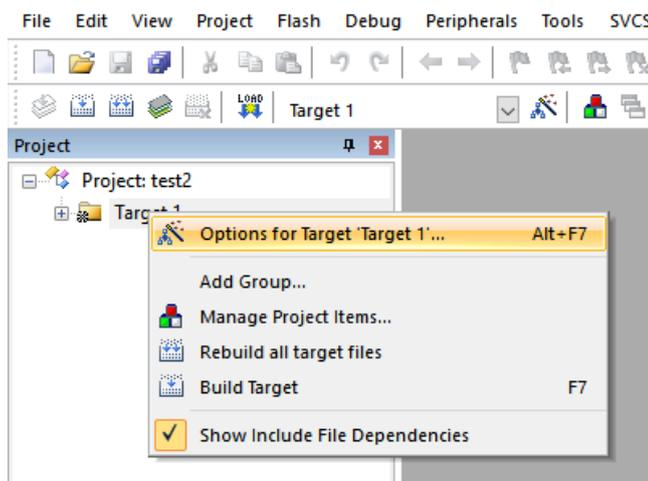

Figure 66 - Options for target
- Right-click on the created project and select “Options for Target” as shown in Figure 66.